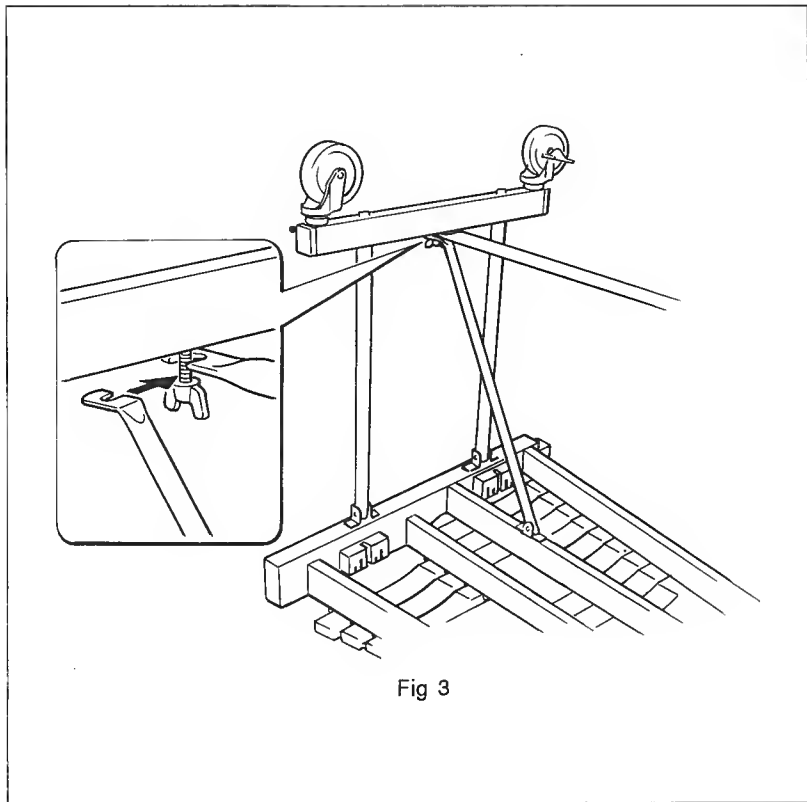

Fig 3
- ③ First fit the lower crossbar support to the leg base, then attach the slant support with the same bolts used for fixing the center stays. (Fig 3)
- ④ Stand the instrument in upright position.